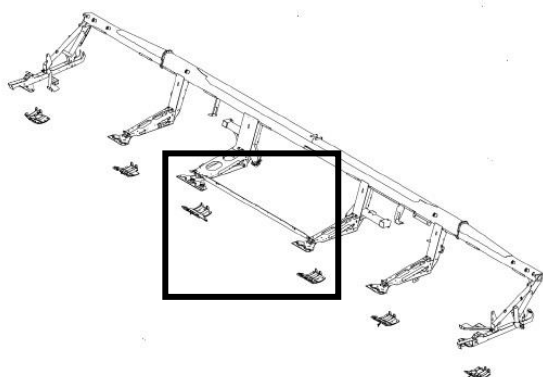

Figure 296
Skid shoes can be added for extra header protection. The shoes are adjustable from 2-4". The skid shoes are either factory installed or can be installed at a later date. The shoes are bolted to each strut at the front of the strut. Note: the number of skid shoes depends on the size of the header. Figure 296 shows a 30-36-foot header.
2. The two skidshoes next to the subframe will need to be removed when the header is place on the transport trailer. Figure 296